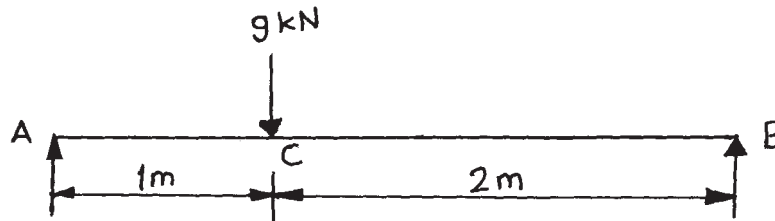

Fig. No. 3
a) Calculate deflection under point load of a simply supported beam as shown in Fig. No. 3. Take EI =constant. Use Macaulay's method.